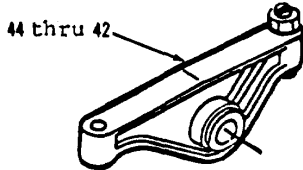

Figure 3-56.
- 10. Install items 44 thru 42 as an assembly (Figure 3-56).